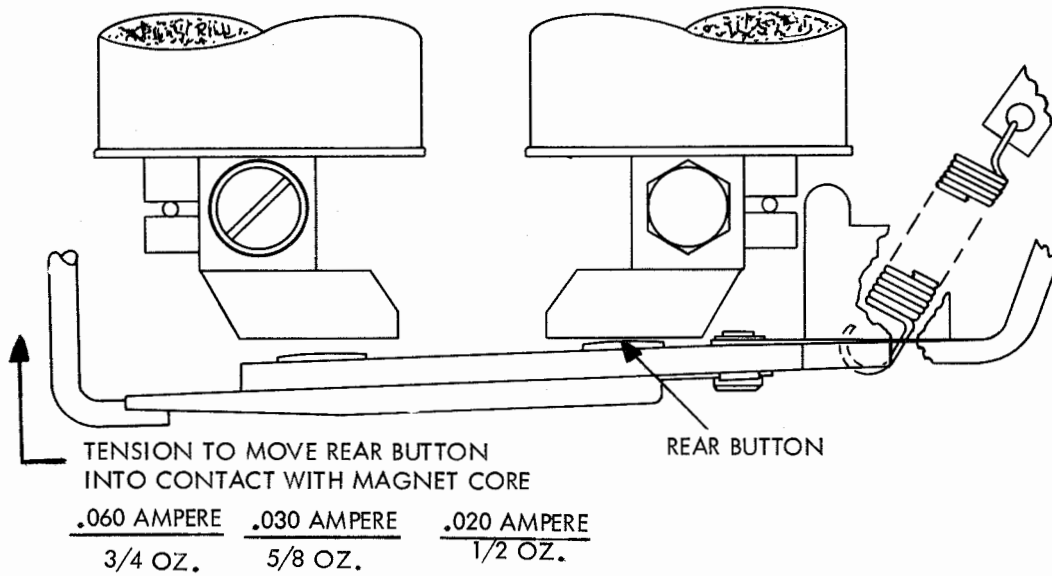

FIGURE 1.
- (1) Selector Armature Adjustment.
- (2) Selector Armature Downstop Adjustment (on units so equipped).
- (3) Selector Cam Lubricator Adjustment (on units so equipped).
- (4) Selector Clutch Stop Arm Adjustment.
- (5) Selector Magnet Bracket Adjustment. (Teletype Bulletin 217B).
- (6) Oil Shield Adjustment (on units so equipped).
- (7) Selector Armature Spring Tension.
a. Preliminary (Refer to Figure 1)